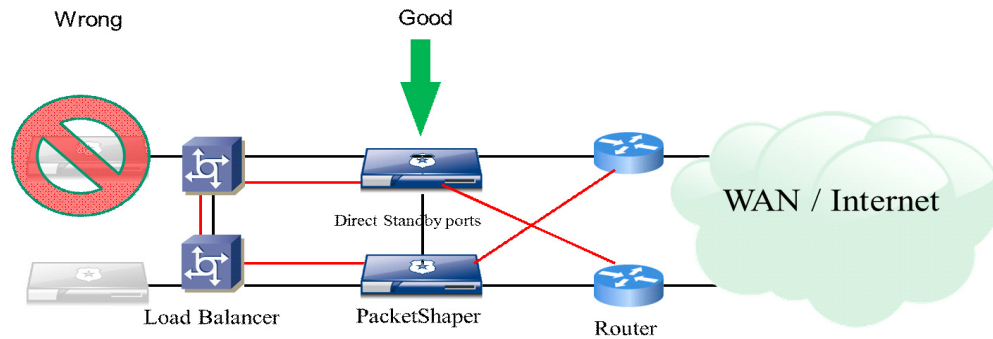

Figure 1–9 Correct positioning of PacketShapers
- Try to always position the Packetshaper *after* the load balancers. Usually, load balancers have proprietary algorithms to split the load across multiple WAN links. These algorithms are not known by the PacketShaper, so in order to ensure proper QoS, PacketShaper must know which WAN link will be used when packets come through its interfaces. (See Figure 1–9.)